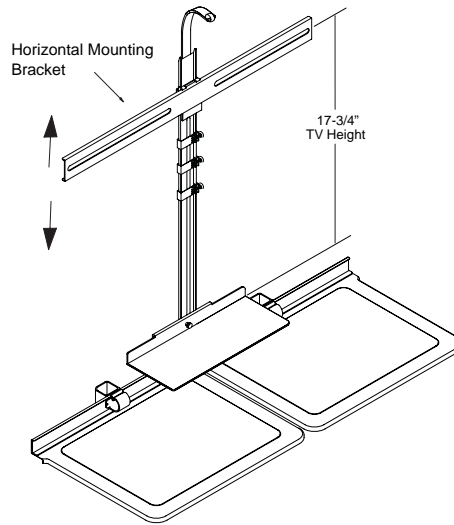

Fig. 9
F) Adjust horizontal mounting bracket to the measurement calculated in “E” by manually raising or lowering the horizontal TV bracket. Your measurement should be from the small TV platform to the center of the slot on the TV bracket as shown in Fig. 9.